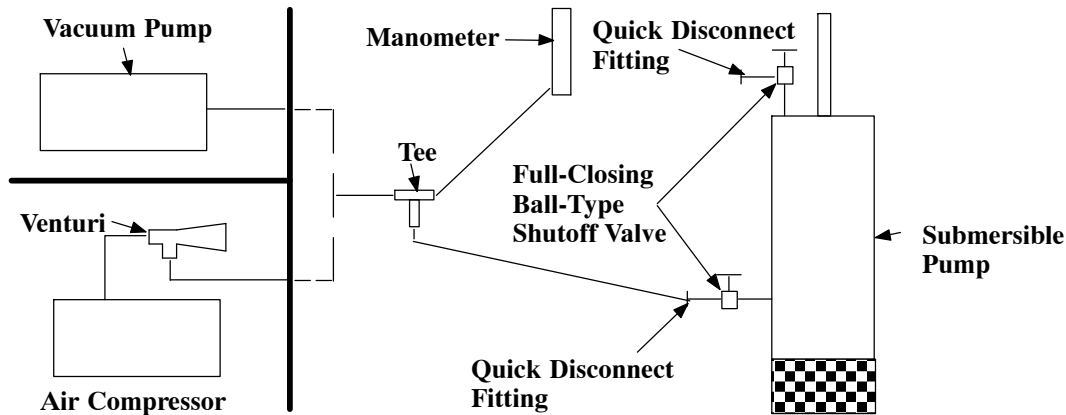

Figure C-8. Vacuum Test System
It is recommended that a vacuum pump be used to draw the vacuum on the cavities. If a vacuum pump is not available, a compressor/venturi system may be used, see Figure C-8.
See Figure C-8 and connect the vacuum pump or compressor/venturi system directly to the pump at the hole for the seal cavity drain plug (11).
Connect the vacuum pump or compressor/venturi system to the pump as shown in Figure C-8.